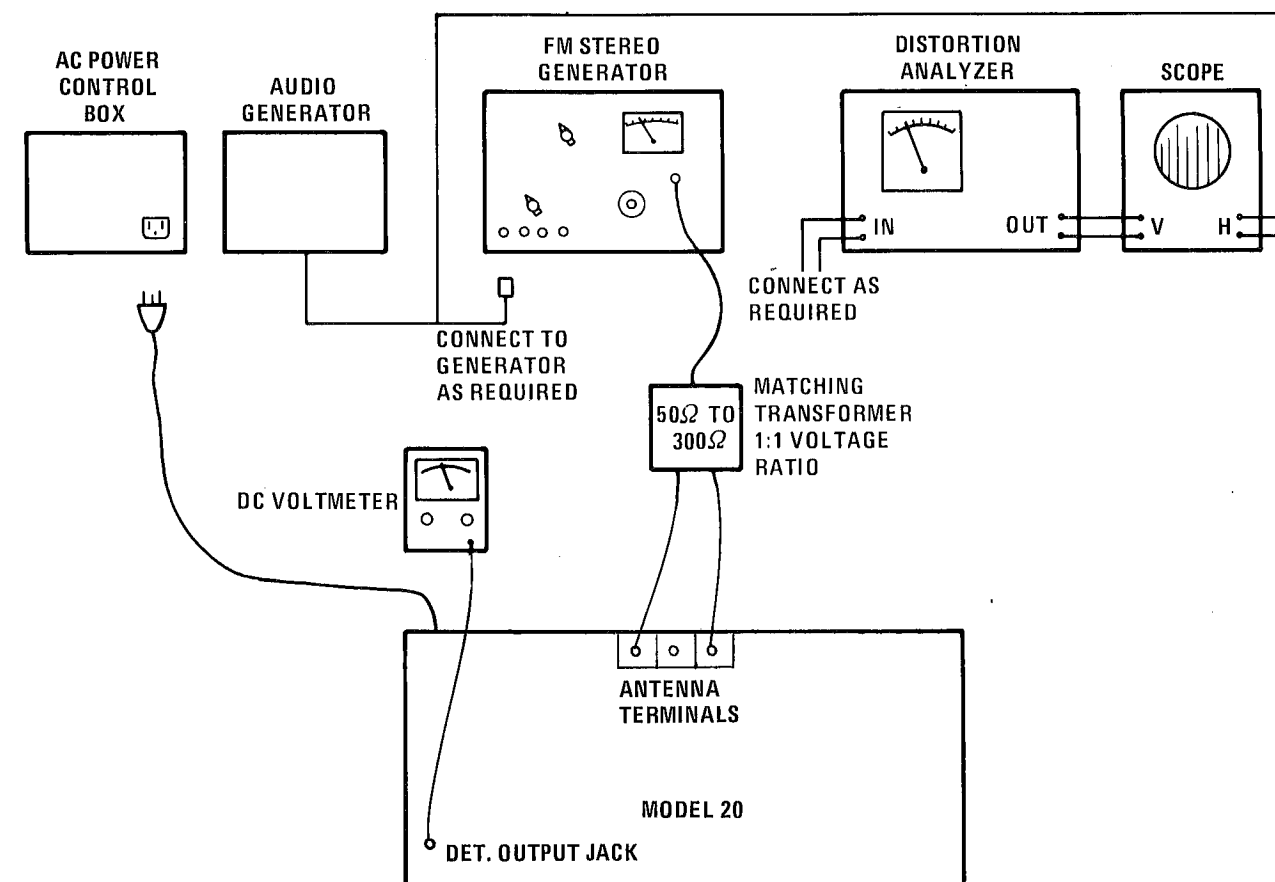

FIGURE 2 – FM TEST SET-UP
1. Make the test setup shown in Figure 2 with the instrument controls set in the following positions:
1. Make the test setup shown in Figure 2 with instrument controls set in the following positions: